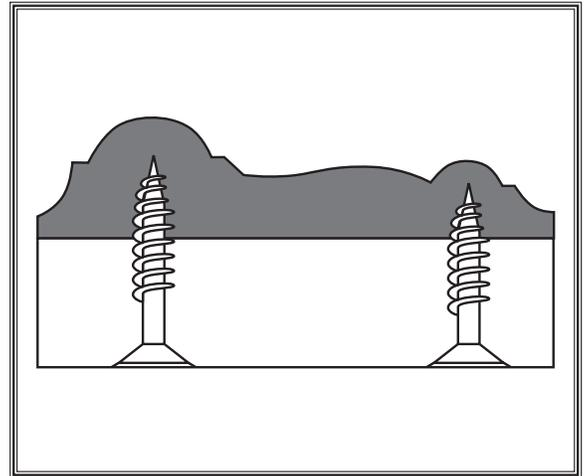

Figure 6. Attaching the moulding blank.
Keep all mounting screws clear of the blade path to prevent serious personal injury and damage to the planer/moulder (see Figure 6).
3. Layout the mounting holes on the template as shown in Figure 6.